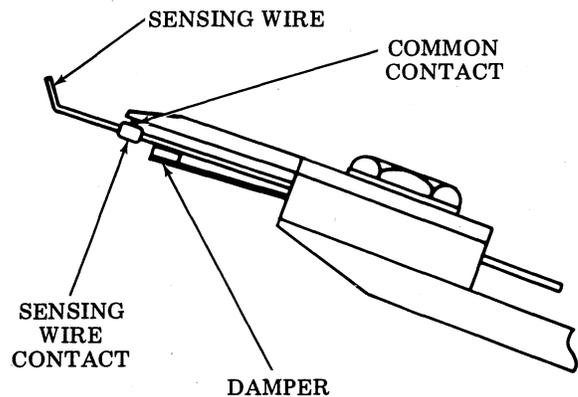

Figure 6 - Tape Sensing Wire (Without Tape in Reading Head)
3.09 The tape sensing wires consist of cantilevered wire springs that sense holes in the punched tape and have integral electrical contact surfaces. In the idling condition without tape in the reading head, the sensing wire contacts touch a common contact, providing a mark output, or contact closure for each sensing wire (Figure 6).